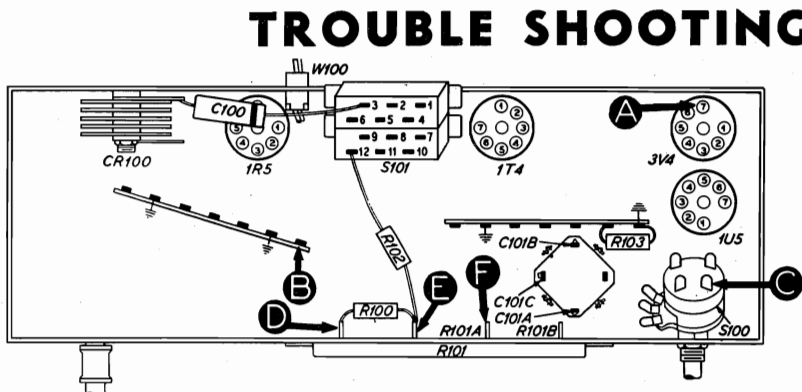

Figure 1. Bottom View, Showing Section 1 Test Points
3. Measure the resistance between B⁺ (output of selenium rectifier), test point D, and B⁻, test point B. See figure 1. When the ohmmeter leads are connected in the proper polarity, the highest resistance reading will be obtained. If the reading is lower than 2000 ohms, check condensers C101A and C101B for leakage or shorts.